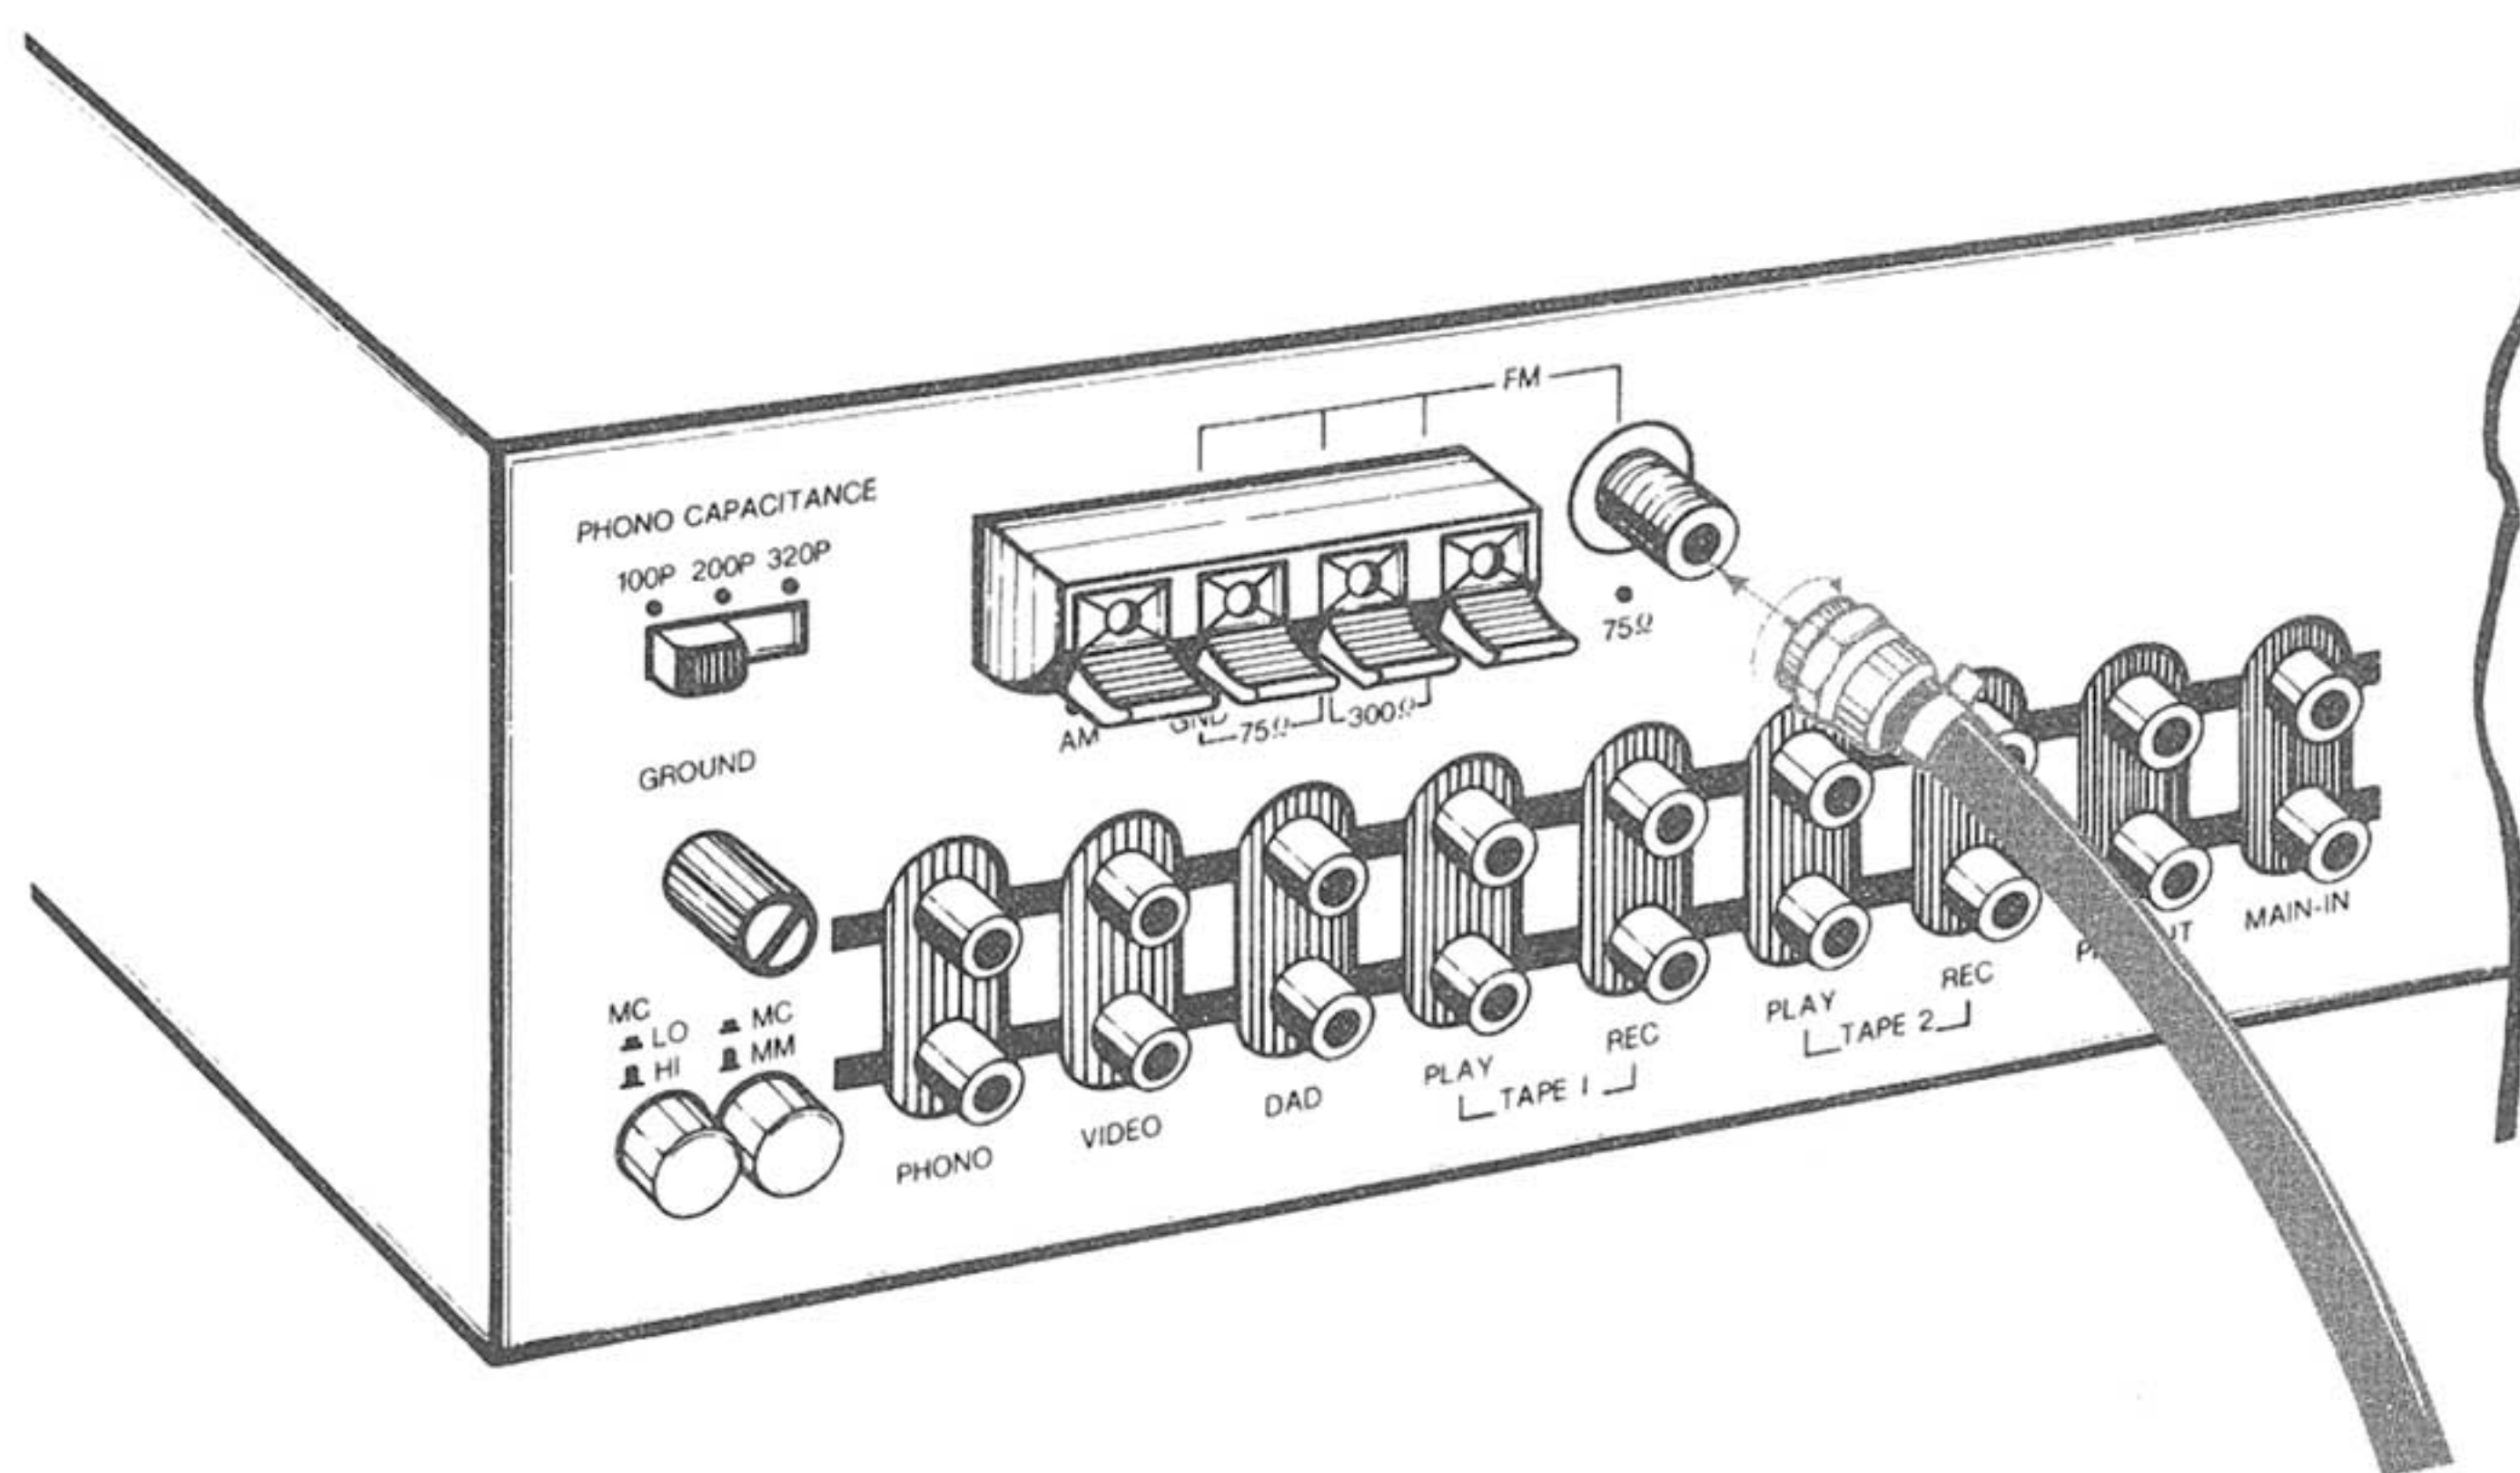
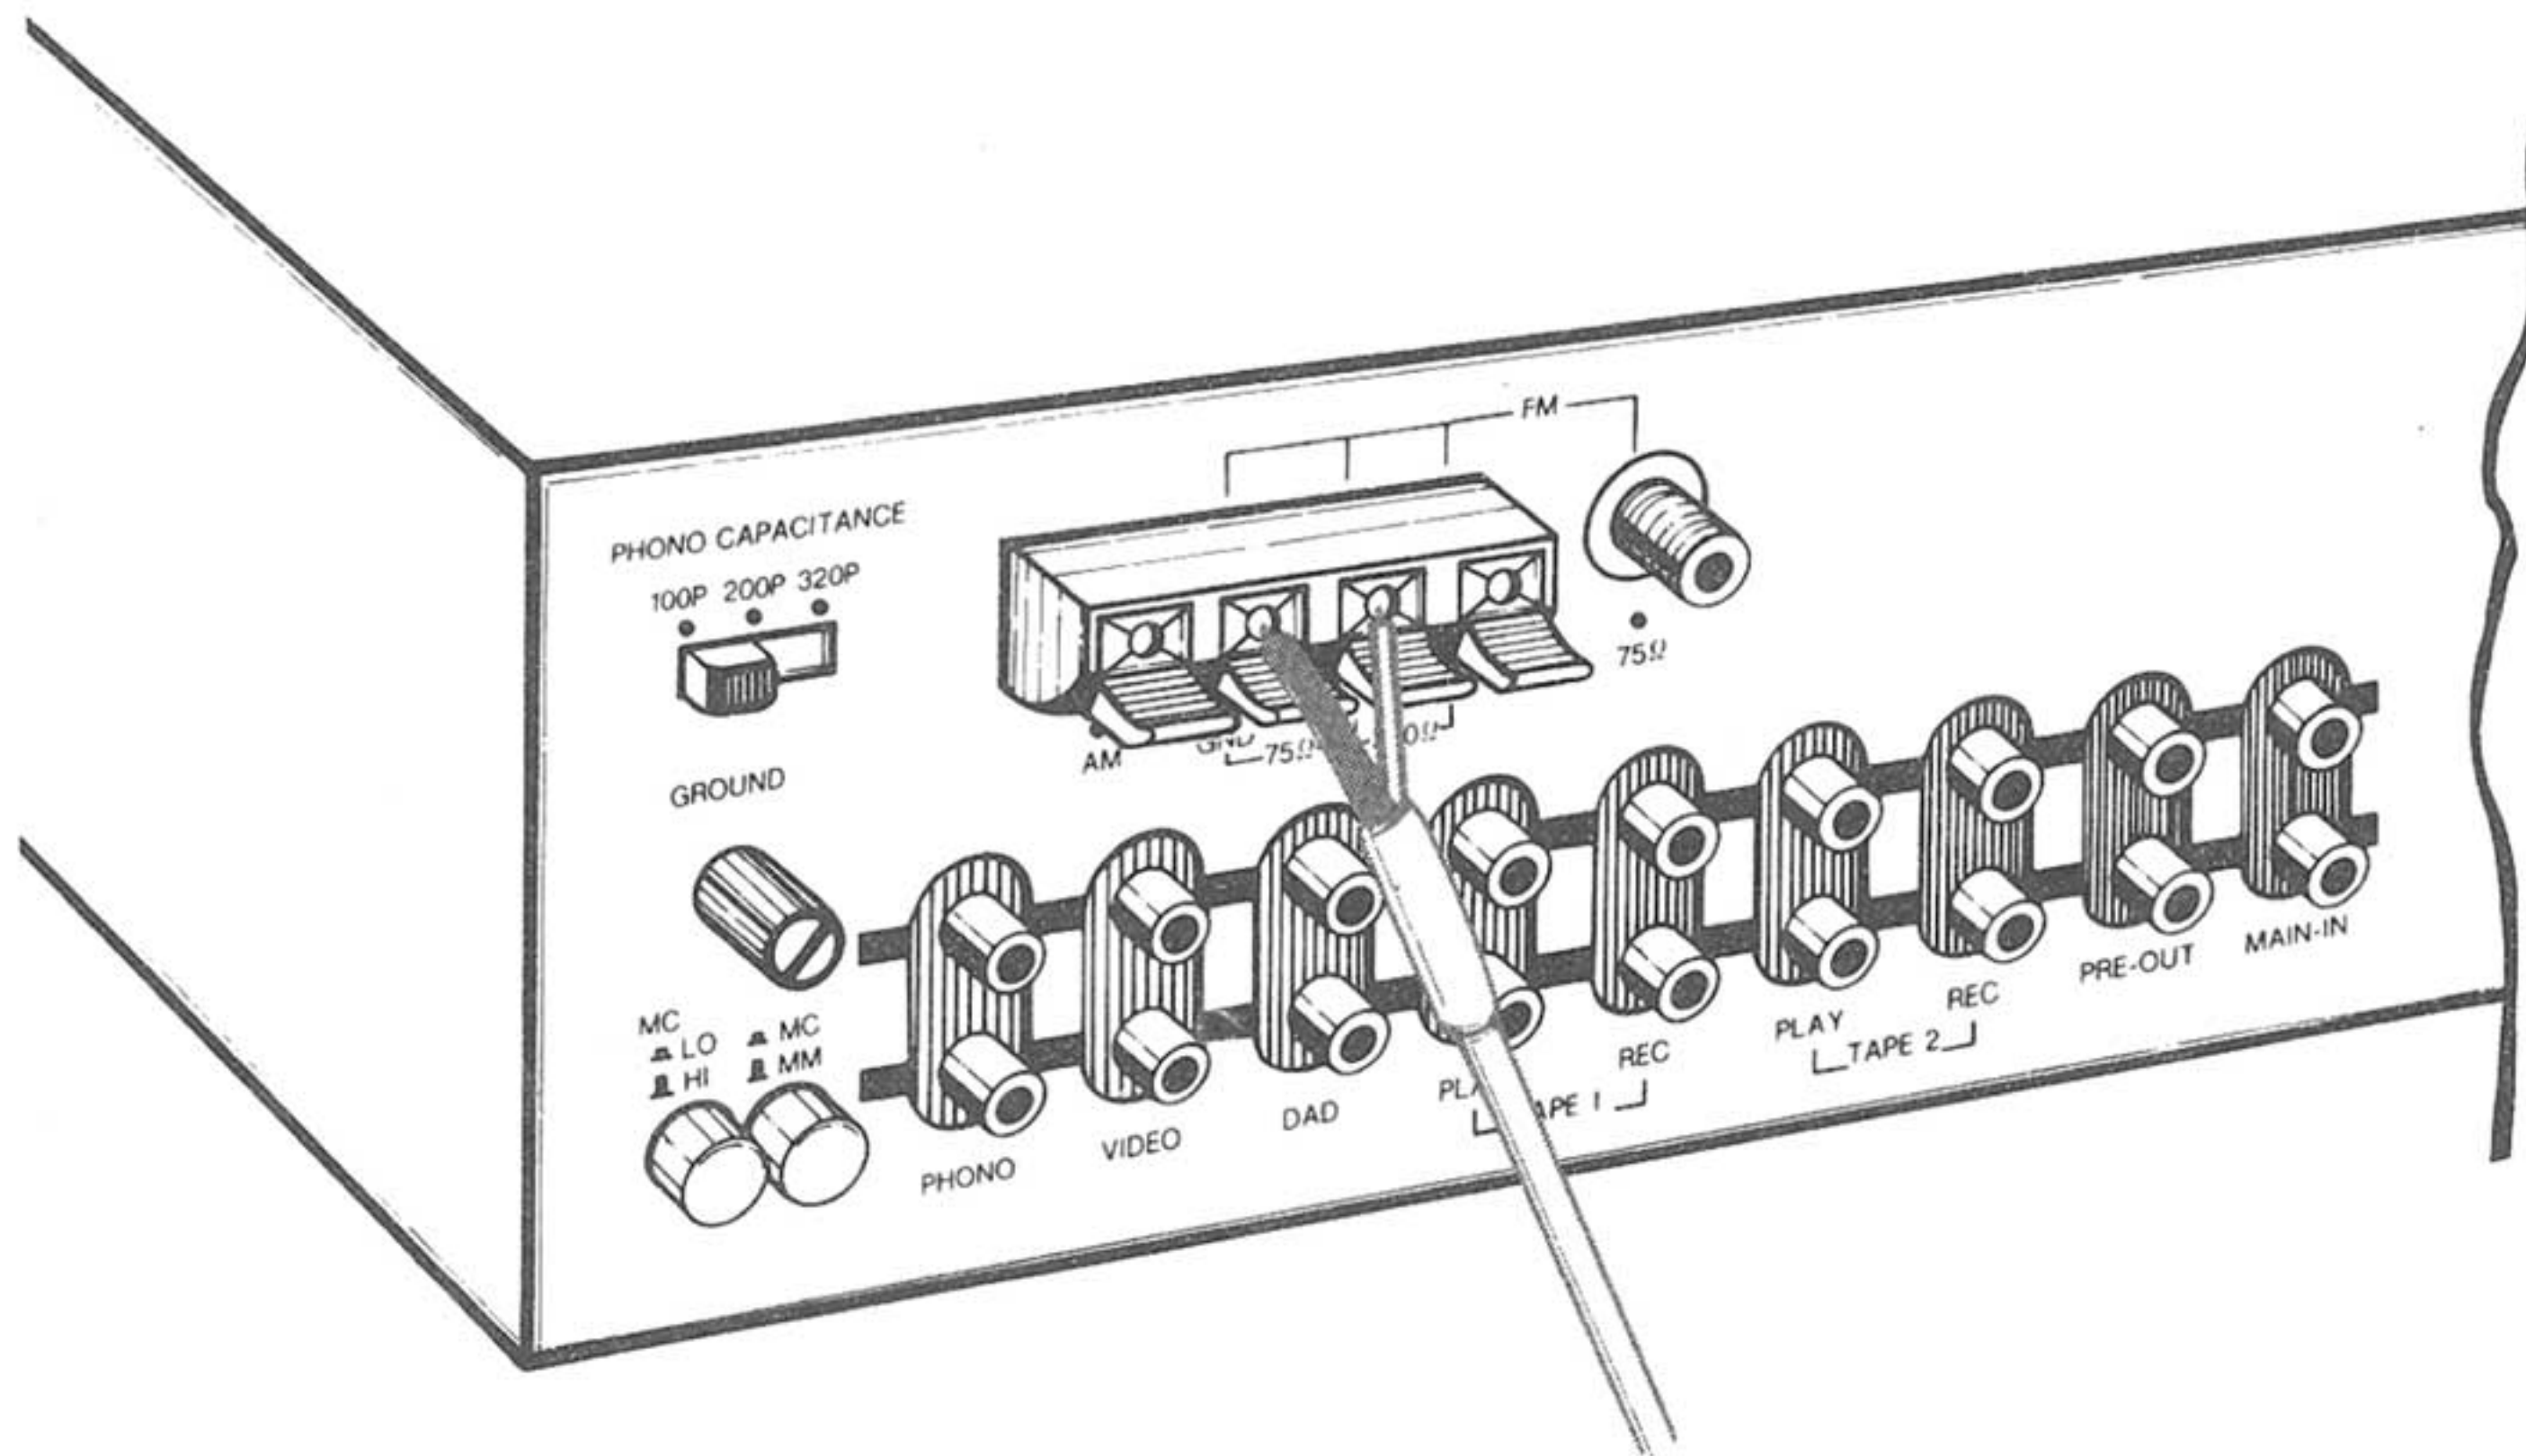

FIG. 3 75 OHM FM ANTENNA
FIG. 4 75 OHM COAXIAL LEAD WITHOUT CONNECTOR
An antenna with a 75 ohm coaxial lead (recommended because it provides better shielding) is connected to the round 75 ohm terminal (23). Insert the antenna lead into this terminal and twist the cable's outer metal ring to tighten the connection (See fig. 3). If the coaxial lead is two wires without a connector, insert the ground wire into the second terminal from the left (marked "G") and the inner wire into the second terminal from the right marked 75 ohm (See fig. 4).